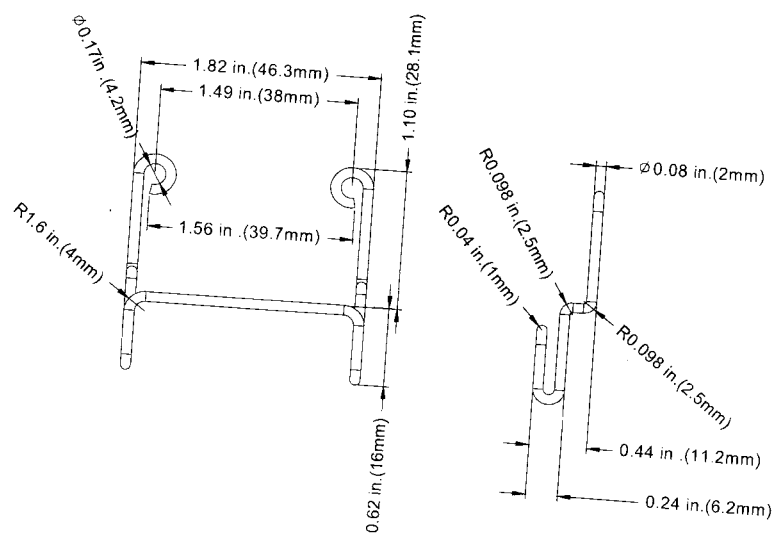

Fig. 3. Outdoor Sensor Mounting Clip dimensions in inches. (mm).
3. A3101 Outdoor Sensor Mounting Clip: see Fig 3.